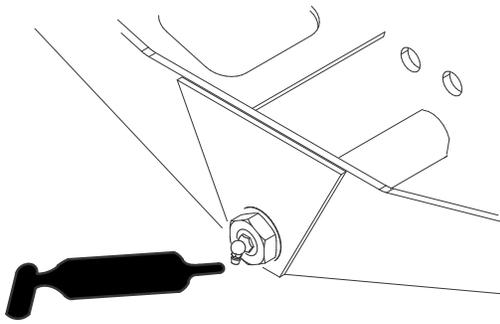

Figure 77
- Axle-steering pivot (1) (Figure 77)